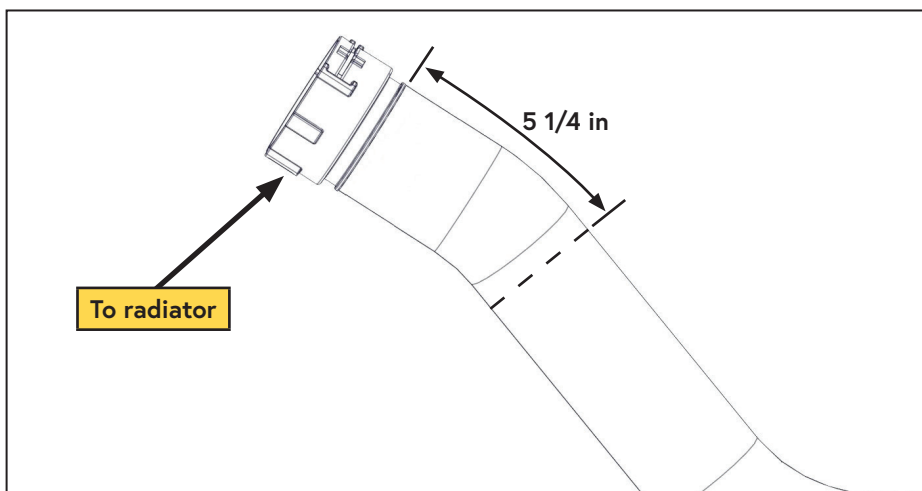

Figure 27 — Lower radiator hose modification
- ☐ From the radiator side of the hose, measure 5 1/4 in along the outside radius towards the center of the hose and mark with a grease pen (Figure 27).